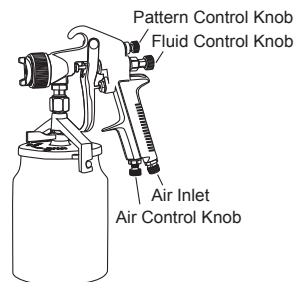

Figure 1 - Pressure Feed Paint Canister Set-up
1. Take out the spray gun and attach to a proper paint canister with about 3/4 full of paint. Refer to the Pressure Feed Paint Canister Set-up in Figure 1. Make sure that the canister is installed with the spray gun tightly and correctly.